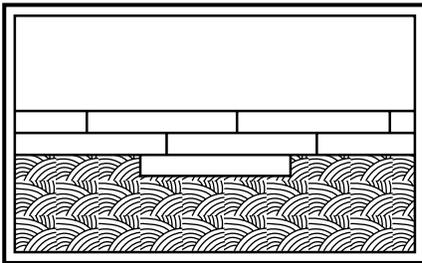

Fig. 3
- Carefully install the first row of tile or plank along the edge of the chalk line. Start with a whole plank in the first row. Use 2/3rds of a plank to start the second row and 1/3rd of a plank for the third row. Thereafter install planks in a random layout offsetting end joints by at least 8". (Fig. 3).